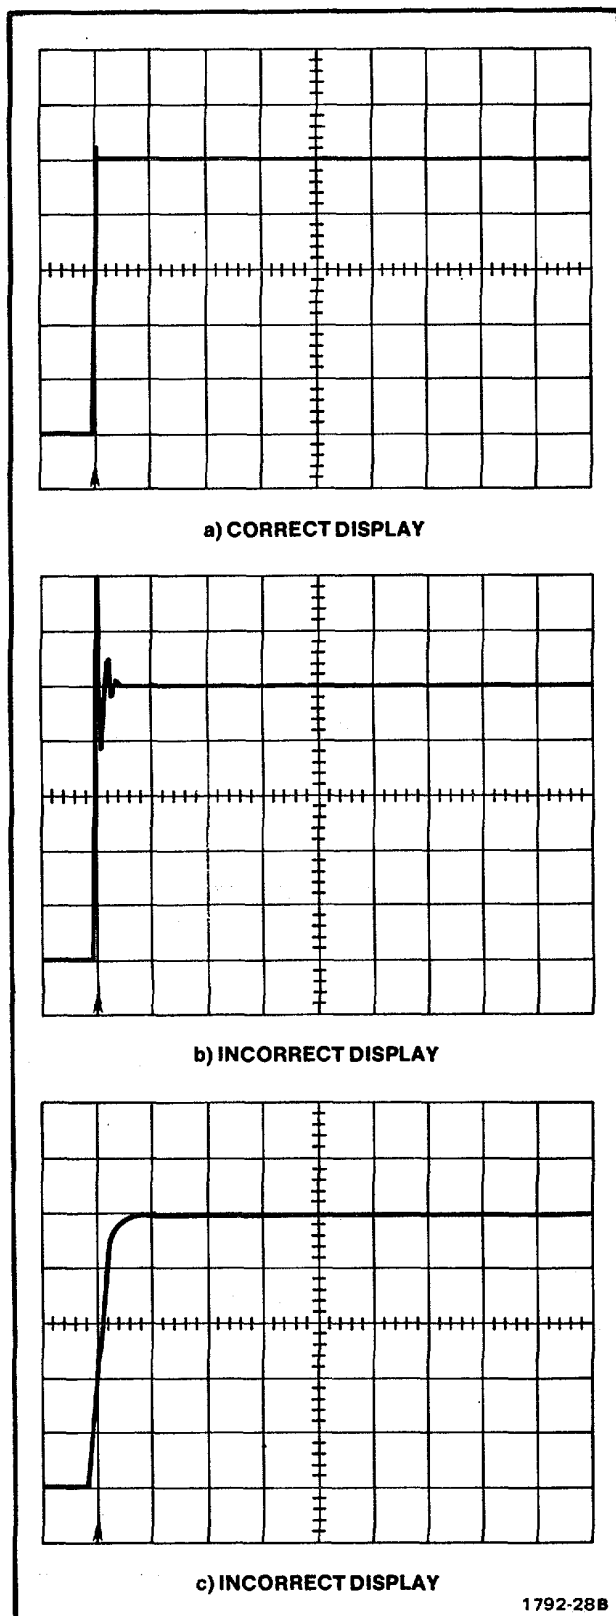

Figure 4-11. Loop Gain Adjustment.
(b). Check that the rise of the pulse occurs within 0.1 division horizontally and there is a spike of approximately 0.2 division at the top corner of the pulse. See Fig. 4-11 for correct and incorrect displays.
95. (a). Adjust R1543 (LOOP GAIN) located on the MAIN board so that the pulse is as described in the previous step. See Fig. 4-11 for photos of correct and incorrect displays.